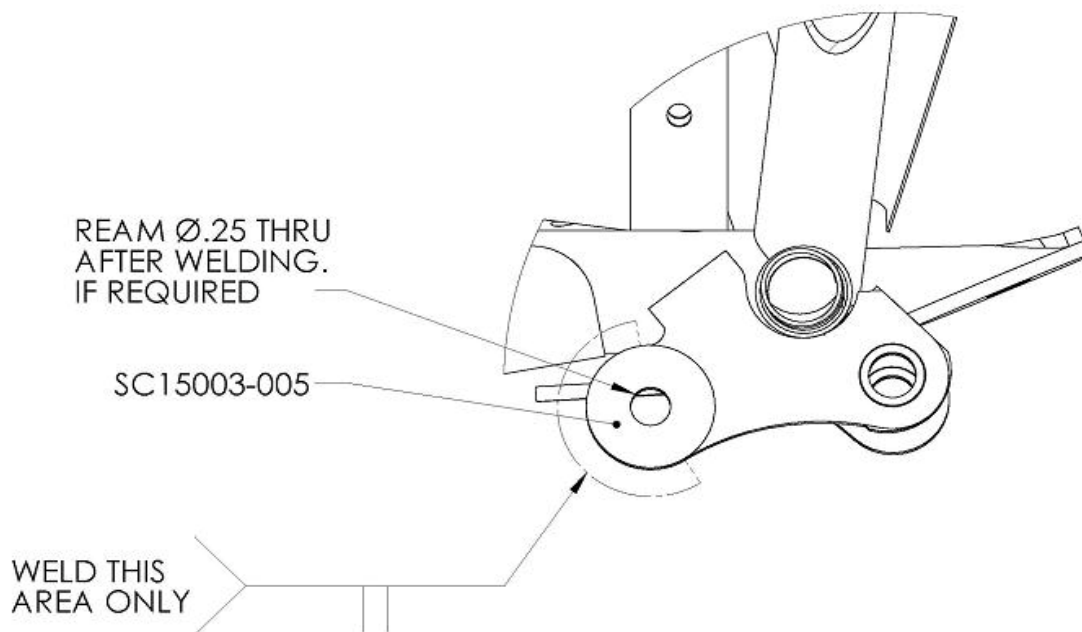

Figure 6 – Washer Weld Location and Information
12. Weld on washers per Figure 6.